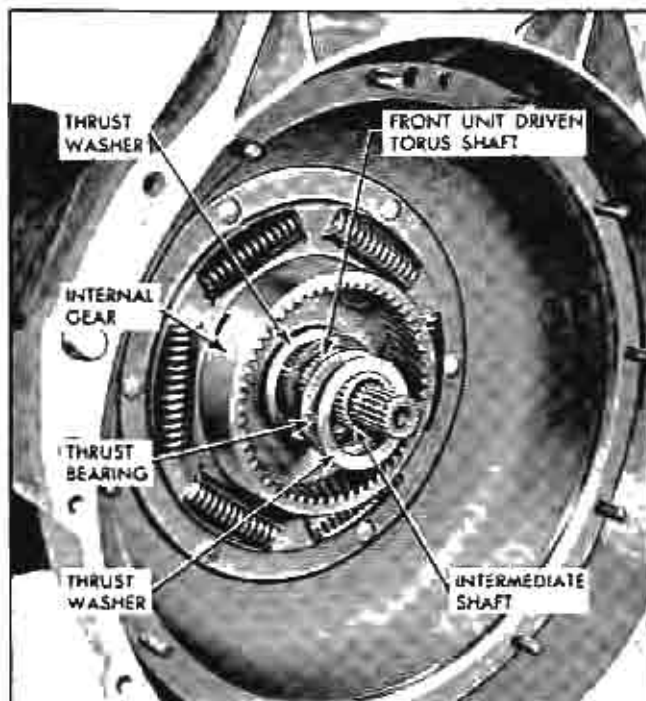

Fig. 174 Installing Front Unit Gear Needle Bearing and Thrust Washer
8. Install front unit internal gear in torus cover making sure lugs of gear engage those of front coupling drive torus (Fig. 174).
9. Install (black) steel thrust washer, needle bearing and second (bright) steel thrust washer in internal gear (Fig. 174).